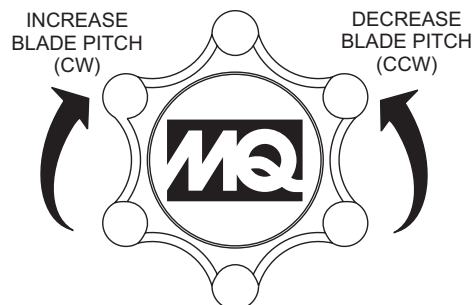

Figure 12. Blade Pitch Cable Adjustment (Standard Handle)
1. For trowels equipped with a **standard** handle (SXHD), turn the star wheel **counterclockwise** to release tension on the blade pitch cable. See Figure 12.